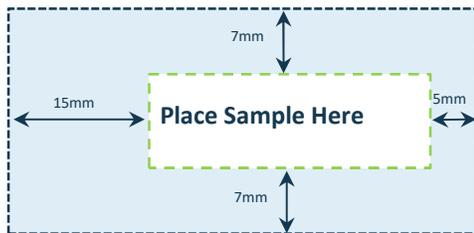

Fig. 1 | Coverslip Area for Sample Placement
2. Place the sectioned tissue onto a **24x50mm** (thickness No. 1) coverslip in the area indicated by Fig. 1.